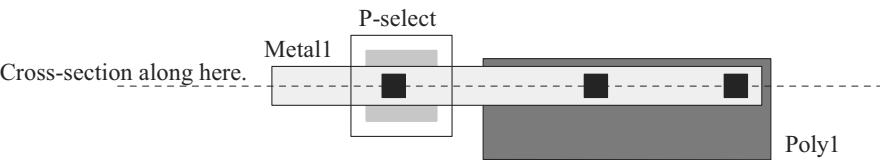

Figure 4.22 Layout used in Problem 4.10.
- 4.10 Sketch the cross-sectional view at the line indicated in Fig. 4.22.